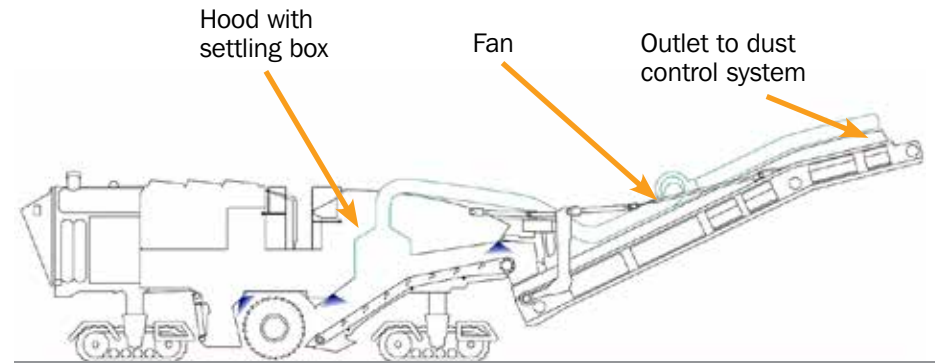

Figure 1: Asphalt pavement milling machine with silica dust controls (Illustration by NIOSH)
**Use ventilation and water-spray controls on asphalt pavement milling machines.** Water-spray plus ventilation controls are collectively considered to be the best practice approach to asphalt pavement milling dust control. Ventilation controls used in combination with water-spray controls can consistently reduce exposures below the NIOSH REL. Typical ventilation controls designed to reduce silica exposures on asphalt pavement milling machines include a collection hood, fan, and ductwork as shown in Figure 1. Milling machines should also be designed to allow the operator to temporarily turn the ventilation control off when milling into the wind. If the ventilation control can be shut off, however, then a feature should be in place to automatically turn the ventilation control back on when it has been off for longer than 60 minutes. Water-spray controls should always remain ON regardless of wind direction.